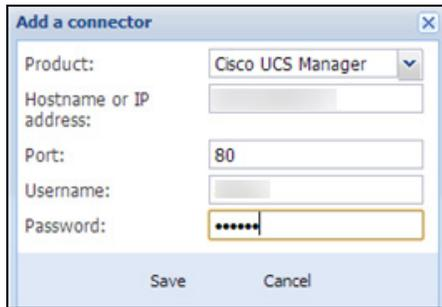

Figure 136. Add a Connector Dialog for Cisco UCS Manager
- Click **Add a connector** in the right panel. The Add a connector dialog box displays (see Figure 136).
3. From the Add a Connector dialog, select Cisco UCS Manager from the Product drop-down list (see Figure 136).